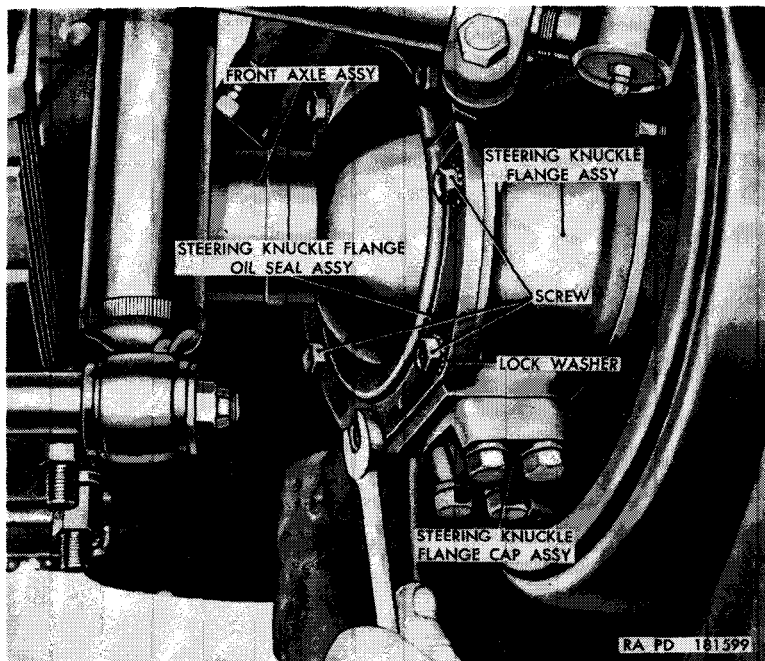

Figure 103. Removing steering knuckle flange oil seal.
*a. Removal* (fig. 103). Place a jack under the front axle and raise vehicle until the tire clears the ground. Remove the eight screws and lockwashers securing the two halves of the steering knuckle flange oil seal assembly to the steering knuckle assembly. Pull the two halves of the oil seal, with the front axle shaft assembly identification plate (fig. 5) and steering knuckle flange oil seal gasket off the steering knuckle flange.
*b. Installation* (fig. 103). Apply a little grease to the gasket surface of the steering knuckle flange assembly. Position a new steering knuckle flange oil seal gasket on the steering knuckle flange and align the mounting holes in the gasket with those in the flange. Position the two halves of the steering knuckle flange oil seal on the flange and secure in position with eight  $\frac{5}{16}$ -inch lockwashers and  $\frac{5}{16} \times \frac{5}{8}$  screws, positioning the front axle shaft assembly identification plate (fig. 5) on the upper section. Lower vehicle to ground and remove jack.